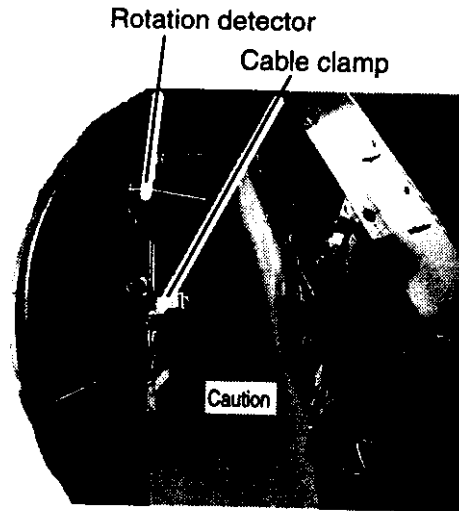

Figure 6 Antenna unit, inside view
- Refasten the shield plate. Be sure not to pinch cable from the rotation detector with the shield plate. See "Caution" in Figure 6 for details.